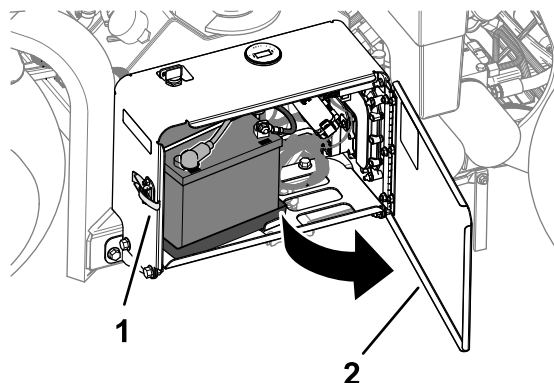

Figure 13
1. Unlatch and open the battery-compartment door (Figure 13).